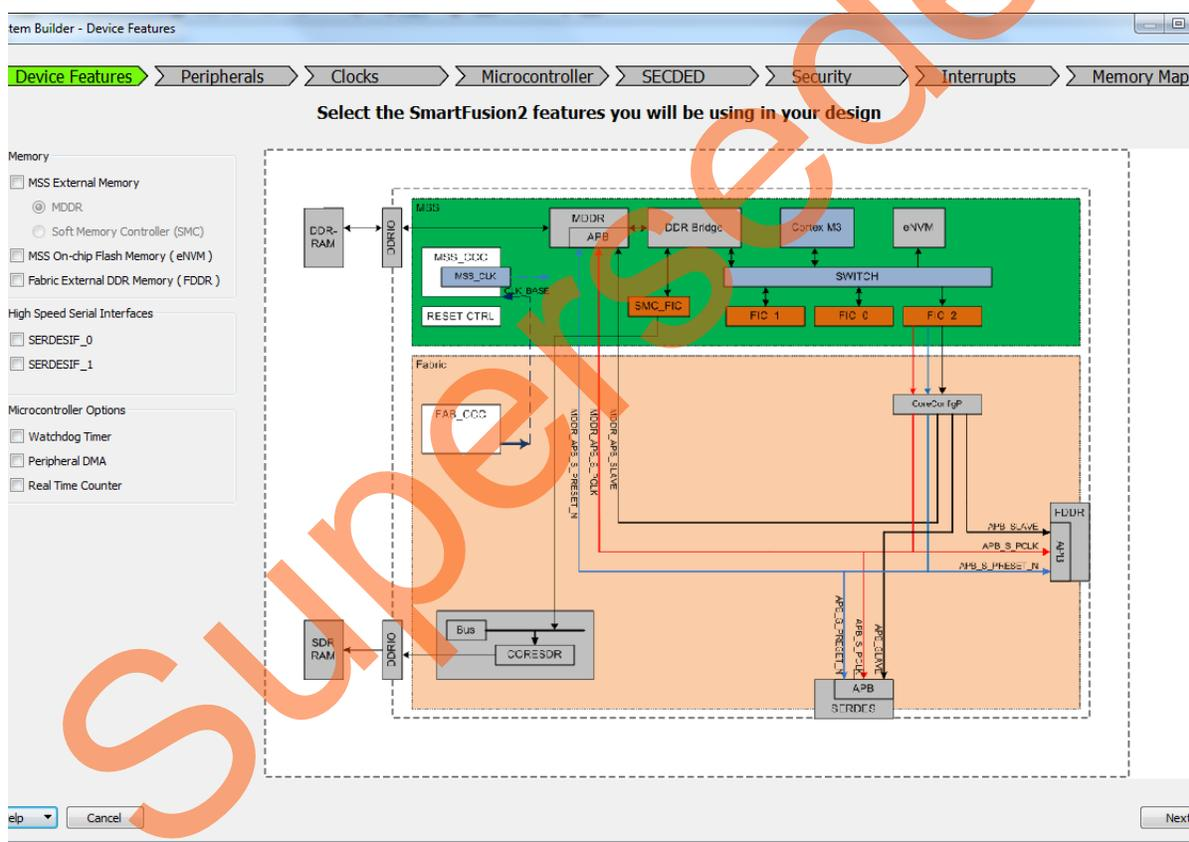

Figure 4 • SmartFusion2 SoC FPGA System Builder Device Features
- Enter **SmartFusion2_FIC_Tutorial** as the name of the system and click **OK**. The **System Builder** window is displayed, as shown in Figure 4.